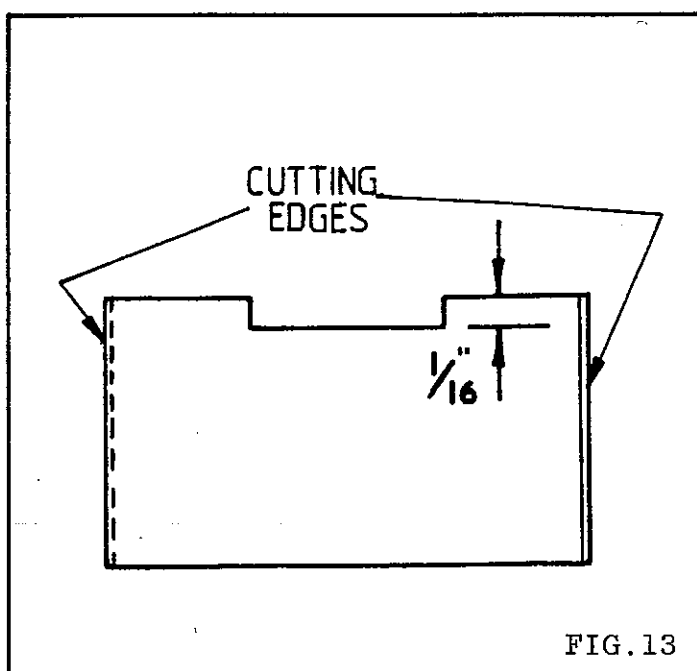

FIG. 13
- 10) Always notch cutters for french spindles as shown in FIG.13 for the Spindle locking bolts to locate the cutter.